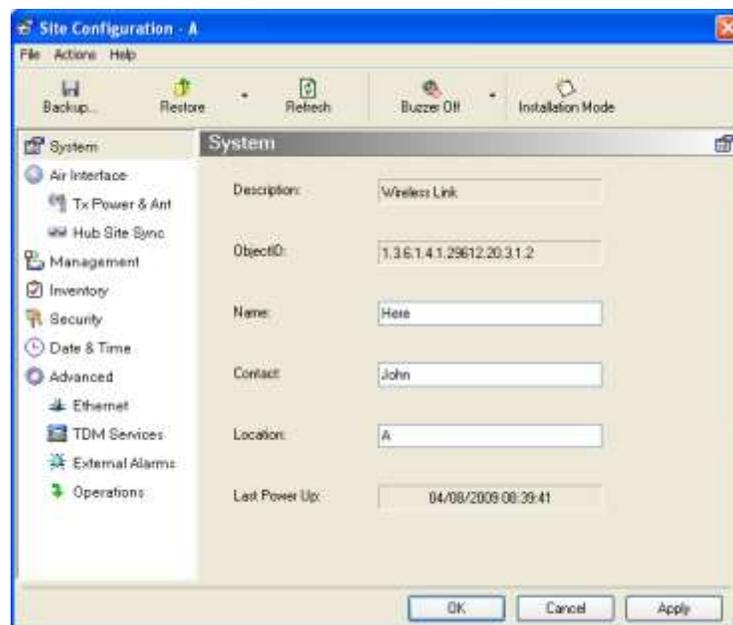

Figure 4-19. System Configuration Dialog Box
From the Configuration dialog box, (see Figure 4-19) the following functions are available by selecting the items on the left of the dialog box:
The Configuration dialog box opens (see *Figure 4-19*).
- From the System dialog box (*Figure 4-19*), configure the following: